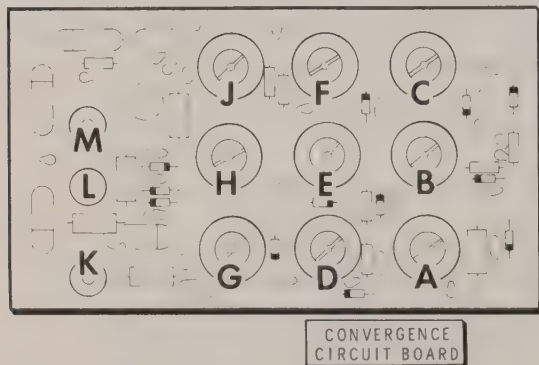
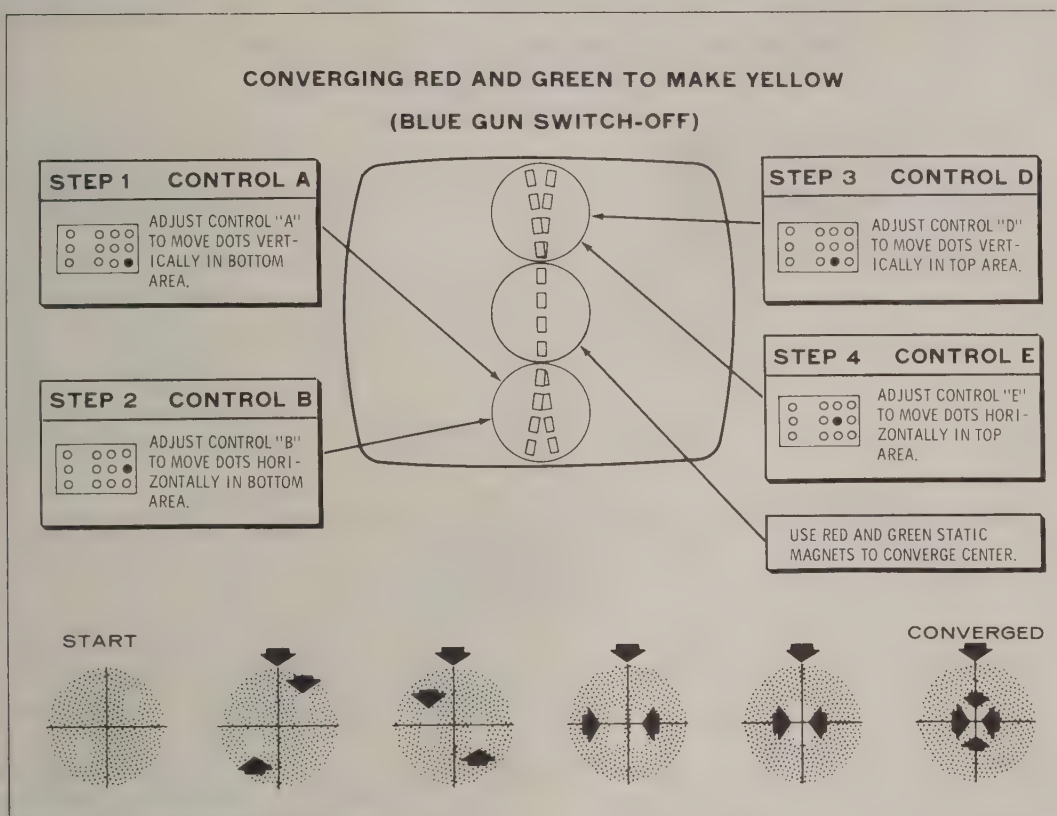

Figure 1-22B
Figure 1-23
Refer to Figure 1-22B for the location of the controls on the convergence circuit board; then perform the steps in Figures 1-23 and 1-24. Use the plastic alignment tool supplied with this kit to adjust coils K, L, and M. Do not adjust coil L652. If a piece of tape is available, place it over the coil hole. Do not use any metallic tape.
- () Check all of the dots in the **vertical line** in the top and bottom areas. Make sure that all red and green dots are merged to form pure yellow dots. If the dots near the center of the screen are not properly converged, readjust the red and green static convergence magnets; then repeat the steps in Figure 1-23. See Photos B, H, and J on the fold-in sheet in Book 4.
- () Check all the dots in the **horizontal line** in the left and right areas of the screen. Make sure that all red and green dots are merged to form pure yellow dots. If the dots near the center of the screen are not properly converged, readjust the red and green static convergence magnets, then repeat the steps in Figures 1-23 and 1-24. See Photo K.
- () Recheck the vertical and horizontal rows of dots. If necessary, repeat the steps in Figures 1-23 and 1-24.